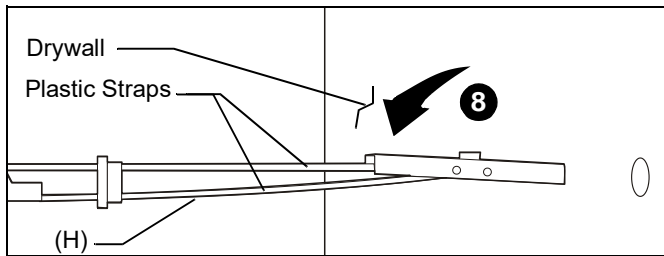

Figure 3
8. (Drywall/steel stud only) Hold metal channel on anchor (H) flat alongside plastic straps and slide channel through hole. (See Figure 3)